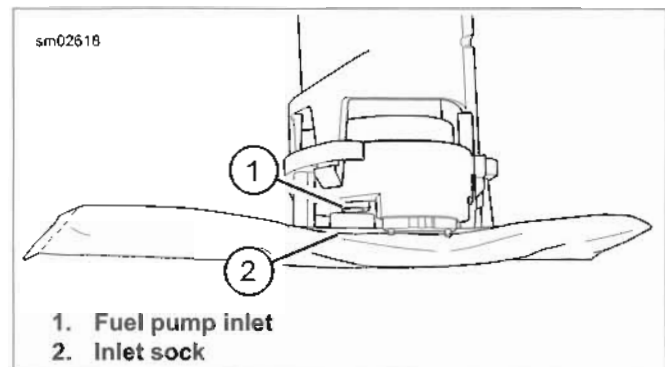

Figure 4-45. Fuel Sock Installation
See Figure 4-45. In next step, be sure inlet sock (2) engages fuel pump inlet (1).